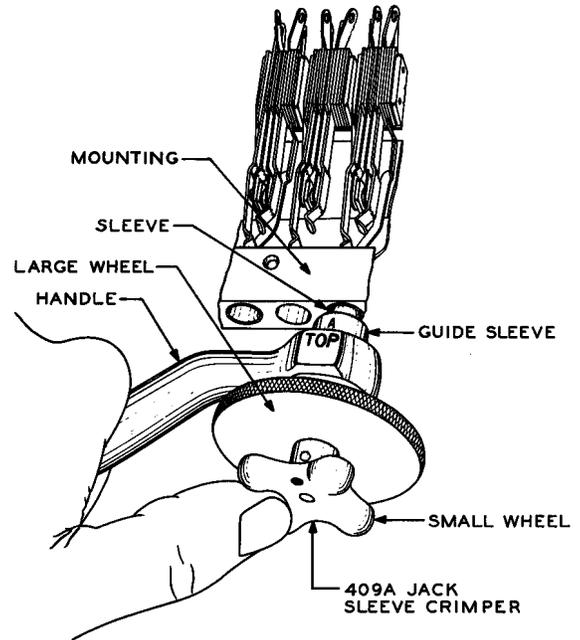

Fig. 10 – Method of Crimping Sleeve Terminal With 409A Jack Sleeve Crimper
3.17 Hold the 409A jack sleeve crimper by the handle in the left hand so that the marking TOP is up. If the sleeve to be crimped is of the 141 or similar jack in a 1/2-inch thick mounting, set the guide sleeve of the 409A jack sleeve crimper in the position so that the letter A is on top as shown in Fig. 10. If the sleeve to be crimped is of the 141 or similar jack in an 11/16-inch thick mounting, set the guide sleeve in the position so that the letter C is on top. If the sleeve to be crimped is of the 49-type jack, set the guide sleeve in the position so that the letter B is on top. The adjustment of the crimper is controlled by loosening the clamping screw on the handle, sliding the guiding sleeve forward, turning it to the desired position, sliding it backward, and tightening the clamping screw.
turning out of this position with the thumb of the left hand as shown in Fig. 10.
3.19 Insert the crimper in the replaced sleeve pressing it firmly against the face of the mounting as shown in Fig. 10. Turn the small wheel 180 degrees bringing the dot opposite its former position. While holding the small wheel firmly with the thumb of the left hand to prevent its turning, turn the large knurled edge wheel with the right hand in a clockwise direction as far as possible without excessive forcing. This crimps the sleeve terminal at its junction with the sleeve. After this crimping operation, turn the large wheel 1 or 2 turns in a counterclockwise direction and then turn the small wheel through 180 degrees bringing it back to its former position. Withdraw the crimper from the mounting.